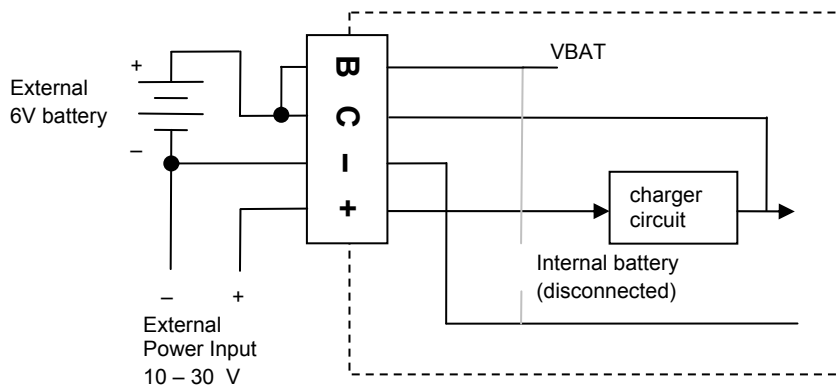

Figure 105: Connecting an external 6V battery – internal battery disconnected or removed
- connecting the link between the **B** and **C** terminals but disconnecting the internal battery connector (*Figure 105*). If desired the internal battery can then be removed altogether. This is the preferred option because then the **VBAT** channel type can be used to monitor the state of the external battery; see *Monitoring DT80 Power* (P277).